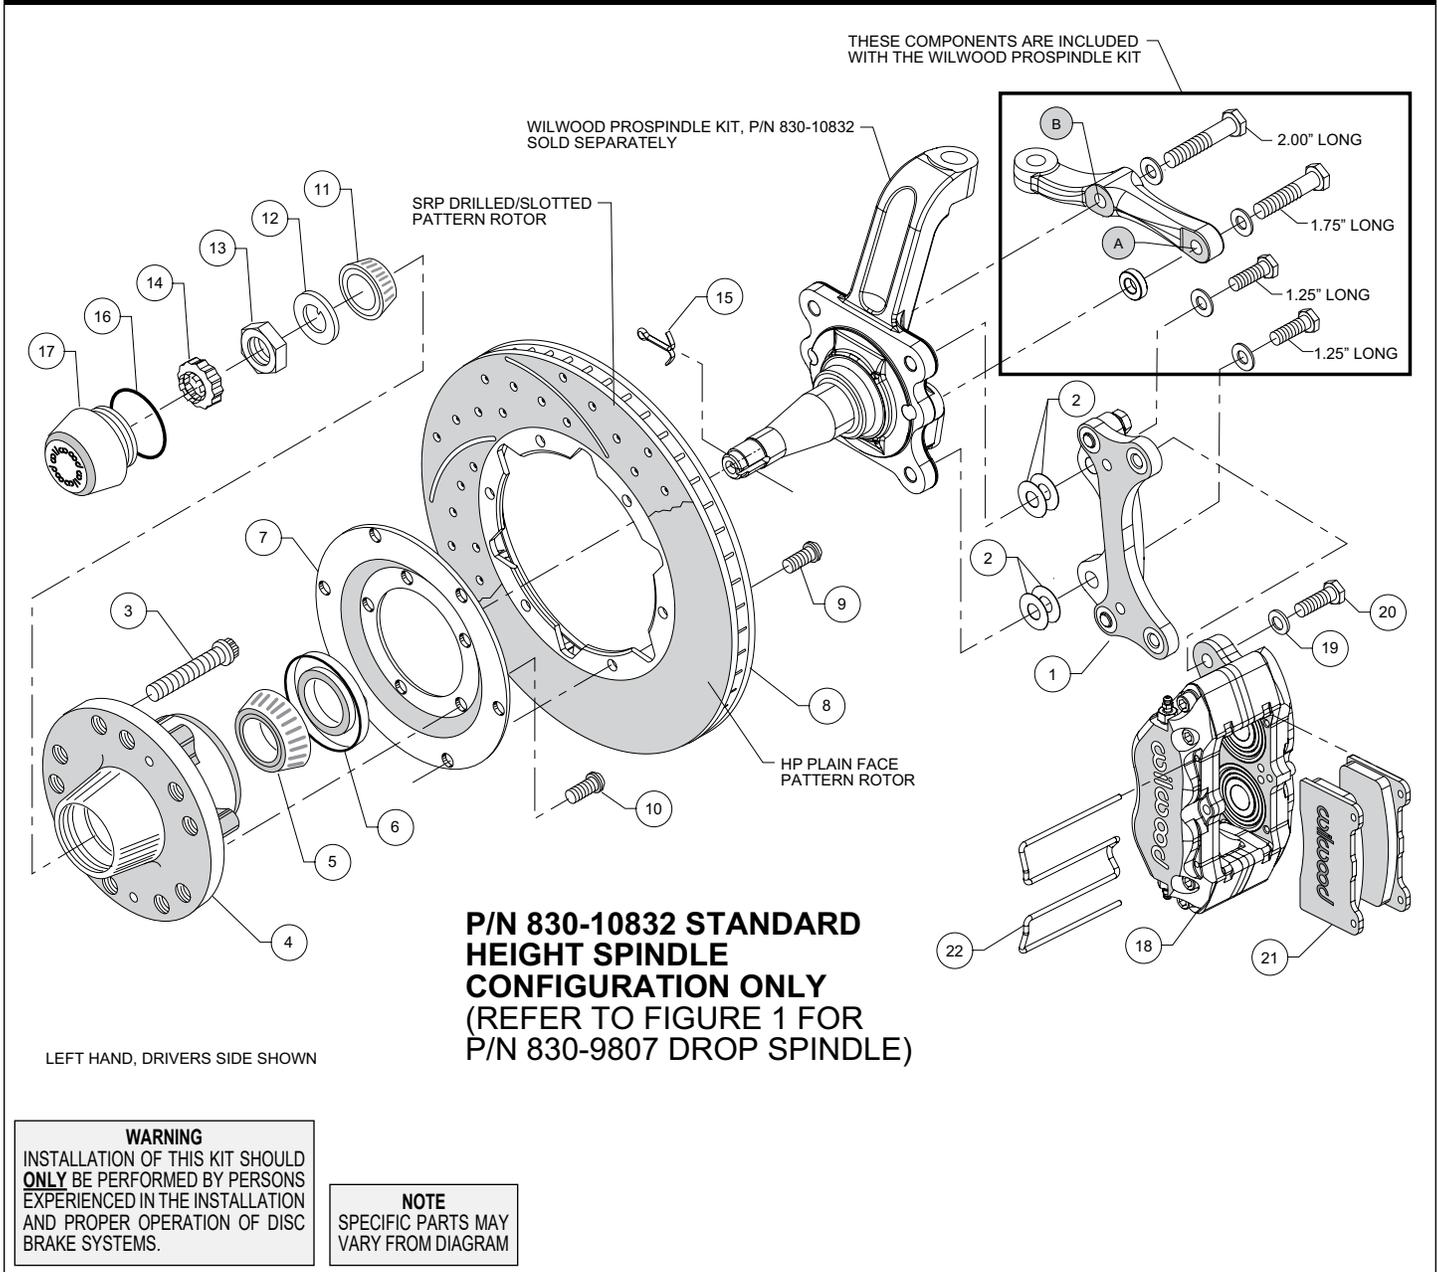

Figure 2. Installation Configuration For Standard Height Spindle, P/N 830-10832
**For Standard Height ProSpindle (P/N 830-10832):** The caliper bracket assembly (1) should initially be installed with clean, dry threads on the mounting bolts.
- Orient the bracket as shown in Figure 2 and Photo 2. Install using 1.25" long bolts and .06" thick washers (from ProSpindle kit), and two .016" thick shims (2) on each bolt between the bracket and spindle, Figure 2. Temporarily tighten mounting
- Orient the steering arm, and identify the hole marked 'A', as shown in Figure 2. Install using 1.75" long bolt, .06" thick washer, and .30" thick spacer (all from ProSpindle kit), Figure 2.
- Finish attaching the steering arm through the hole marked 'B', as shown in Figure 2. Install using 2.00" long bolt and .06" thick washer (from ProSpindle kit), Figure 2.
- Install wheel studs (3) into the hub (4), Photo 3. Torque to 77 ft-lb. **NOTE:** There are two lug patterns of five holes each in the hub (5 x 4.50 and 5 x 4.75). Make sure of the correct hole pattern for the wheel application before installing the studs into the hub.
- Pack the large inner bearing cone (5) with high temperature disc brake bearing grease (available from your local auto parts store) and install into the backside of the hub (4), Photo 4.
- Install the grease seal (6) by pressing into the backside of the hub (4), flush with the end of the hub, Photo 4.